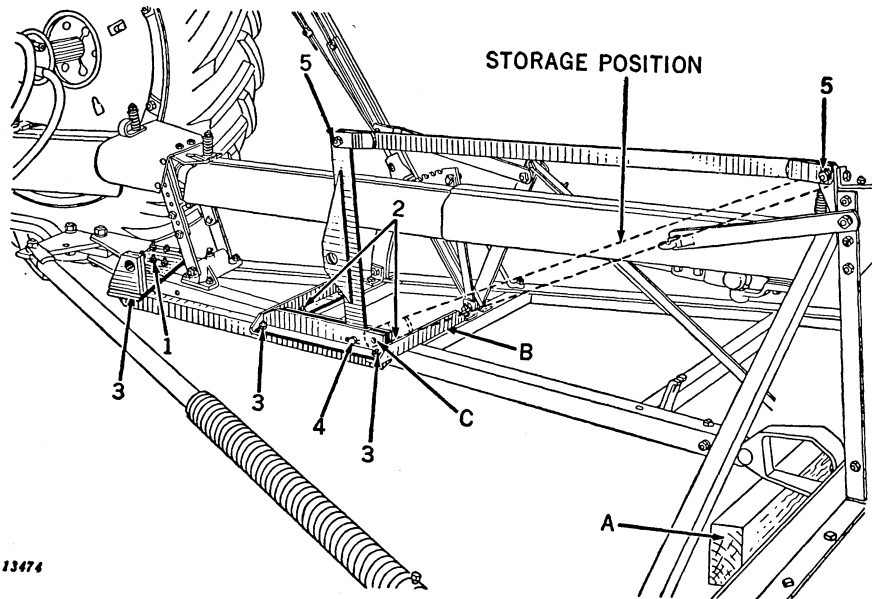

Figure 17
1. Place a 6- or 8-inch block under tractor hitch bracket as shown at "A," Figures 17 and 18.
3. Detach front end platform tilting strap and bolt securely to pivot angles at "C," Figure 17; windrower can then be hooked to tractor and moved.
Place a 6- or 8-inch block under tractor hitch hinge bracket as shown at "A," Figures 17 and 18.